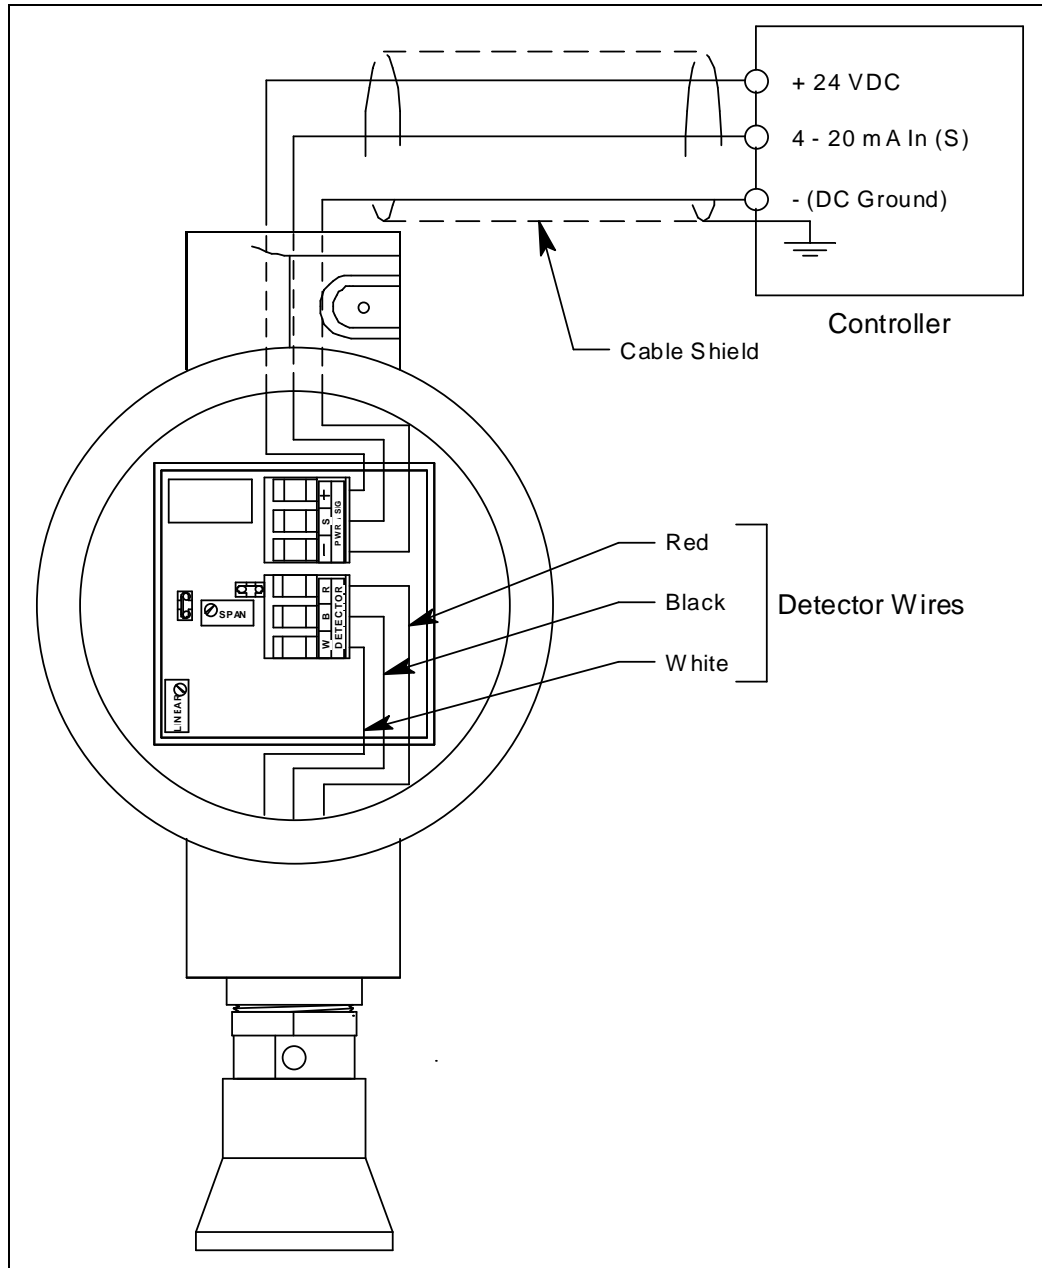

Figure 4: Wiring the PPM Hydrogen Transmitter to a Controller
4. The detector leads are factory wired. Verify that the detector leads are wired to the amplifier's detector terminal strip as shown in Figure 4.
7. Pull out the controller terminal strip, and connect the three wires to the terminal strip as follows (see Figure 4).
11. Connect the wires to the applicable detector/transmitter terminal strip at the controller as shown in Figure 4.
8. Connect the detector leads to the detector terminal strip as shown in Table 3 and Figure 4 on page 11 of this manual.
7. Install the detector and controller terminal strips into their sockets on the new amplifier as shown in Figure 4 on page 11 of this manual. If controller leads or detector leads were removed during this procedure, refer to Tables 4 and 5 below.